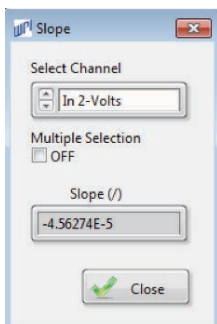

Fig. 77—The Slope Value window allows you to calculate the slope between two points on a selected channel.
1. To calculate the slope value between two cursor values on a selected graph, position your cursors as desired. Then, press **Close**. Then, click on the **Graph Math** menu (of the **Analysis** window) and select **Slope**. The Slope window appears (Fig. 77).